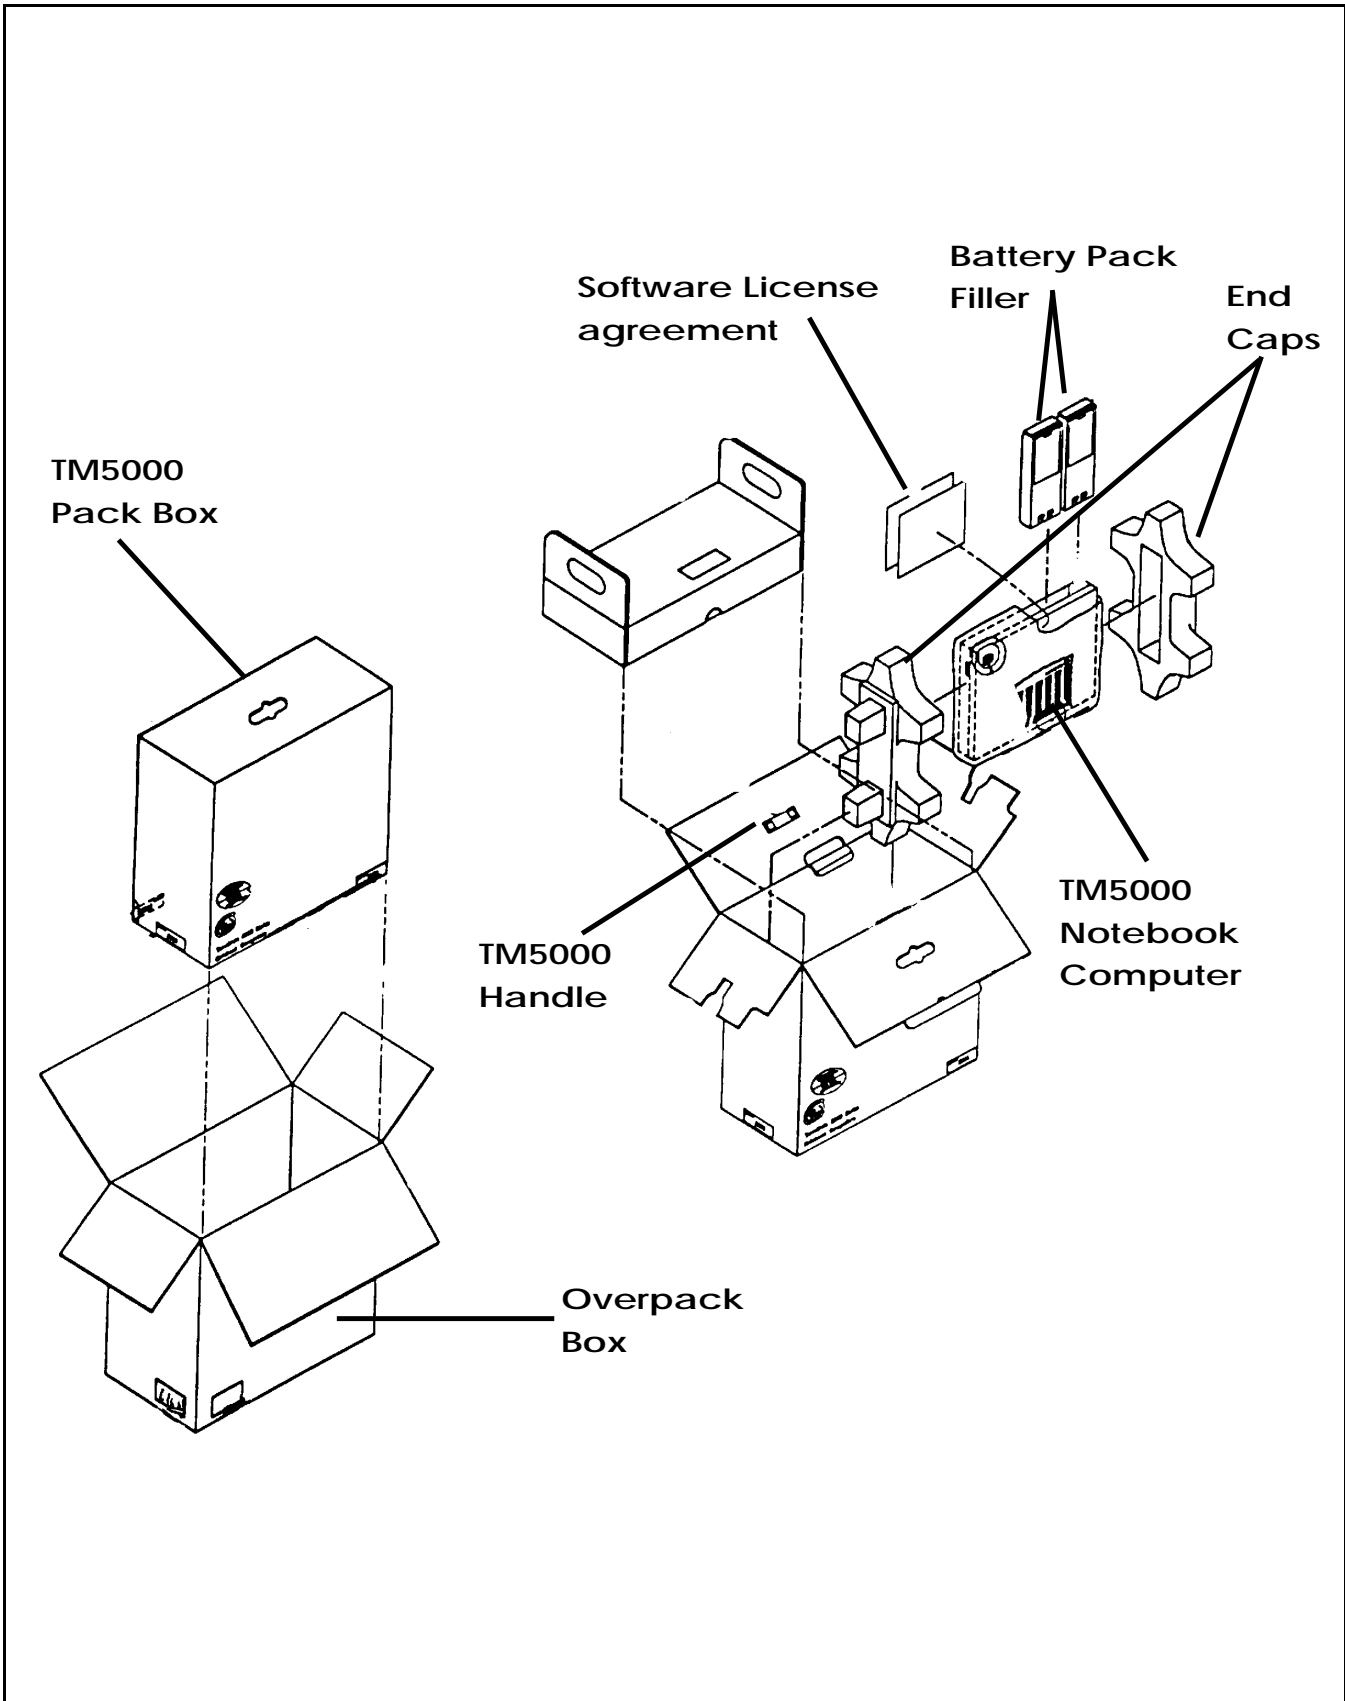

Figure 2-1 TM5000 Series Notebook Packaging Diagram
The packaging diagram for the notebook computer is shown in Figures 2-1 and 2-2. Unpack the computer using the following instructions:
2. Remove the computer and the accessories Carton from the main shipping carton (See Figure 2-1).